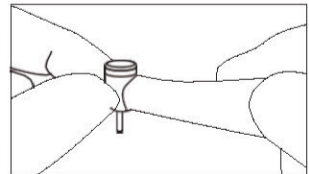

Fig. 10
- After the handpiece rotation has completely stopped, touch the handpiece head to confirm the head is NOT heating abnormally (Fig. 10).